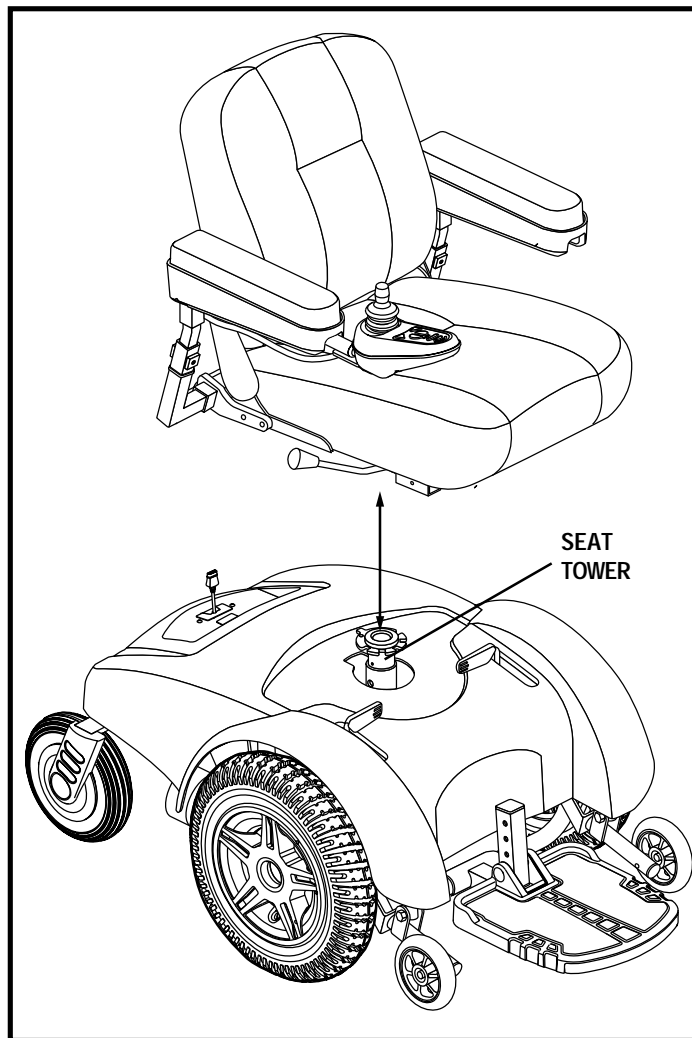

Figure 12. Seat Installation
1. Set the seat on the seat tower. See figure 12.